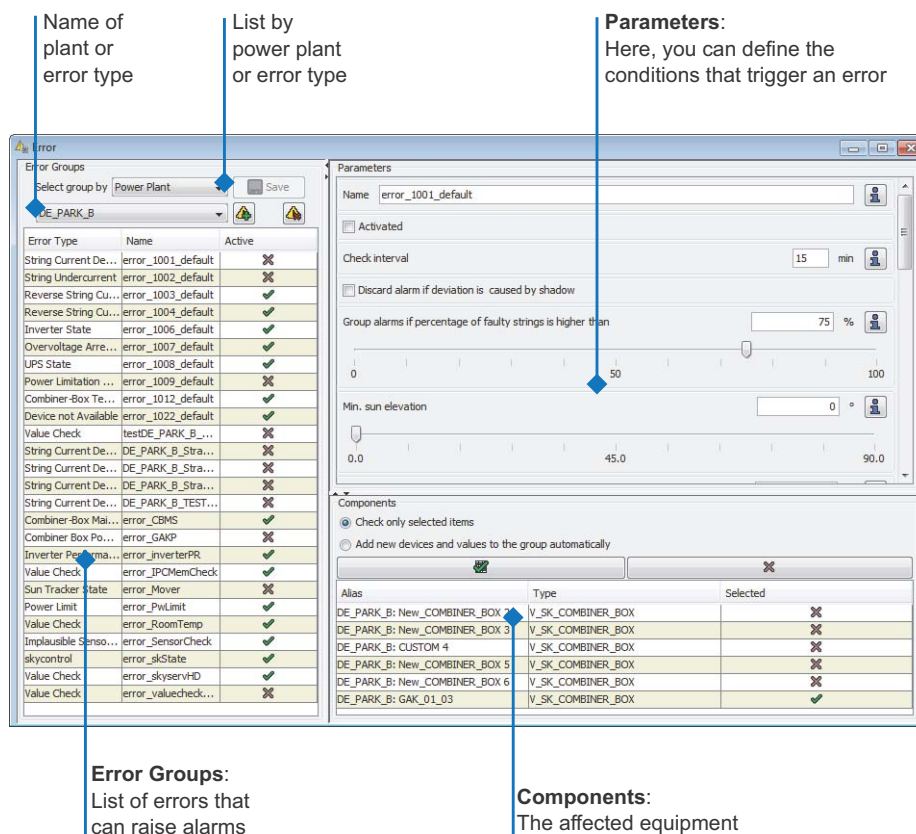

Fig. 72 Errors dialog
- Select *Error* . The *Errors* dialog will open in the views window. This dialog comprises three panes: *Error Groups*, *Parameters* and *Components*. It is shown in Fig. 72 on p. 106.